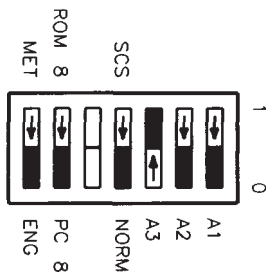

Figure 7-2.
- a. Find the bank of switches to the left of the HP-IB connector on the rear panel of the printer. The three right-most switches (labeled A1 through A3) in Figure 7-2) determine the address.
- b. Set the address to 4 as shown in Figure 7-2, unless address 4 has been used elsewhere. Refer to the manual that came with the printer if you need additional switch settings.